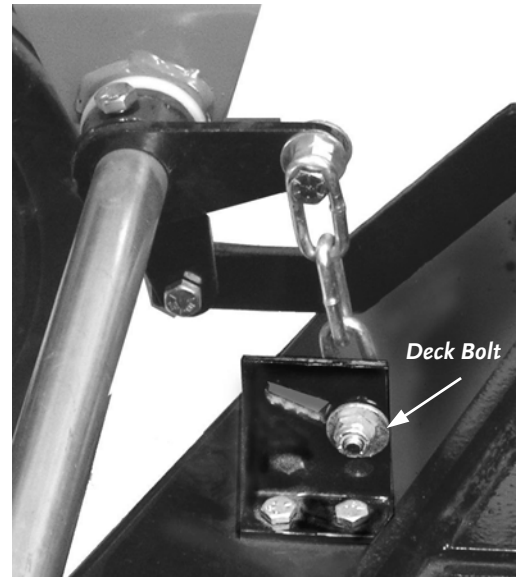

Figure 21
There are four (4) Adjustable Hangers (**Figure 21**) on the Mower Deck and used to maintain a consistent cutting height across the Deck. These may need adjustment from time to time.
2. Re-position the Deck Bolt (**Figure 21**) in the slot as required by removing the Bolt, placing it in a higher or lower position, and then tighten securely.